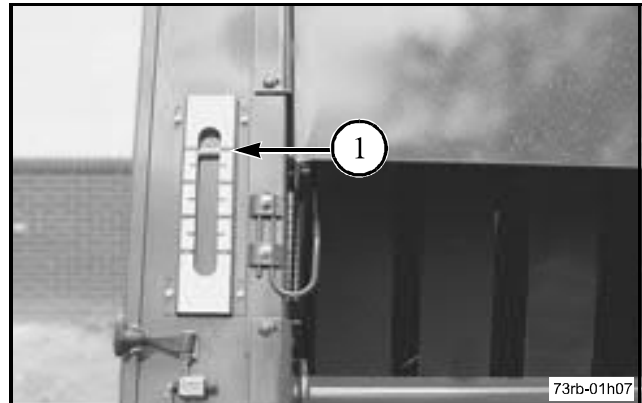

FIG. 10
FIG. 10: A gauge (1) on the right-hand side of the machine has reference marks to use in determining bale size. An indicator or pointer connected to the right-hand bale density torque arm moves downward under the gauge as the bale increases in size. The marks are for reference only and do not indicate the exact bale size. To know the relationship of the diameter of the bale to the bale size gauge, stop and measure as the indicator reaches the reference marks while building the first bale.